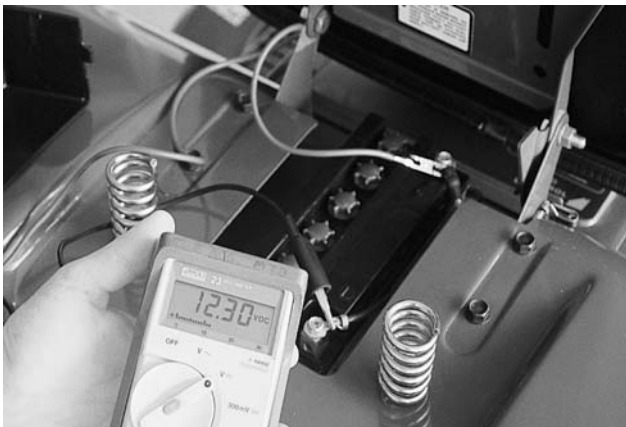

Figure 3-19.
2. Check the battery with a voltage tester. The battery should read approximately 12 volts. Turn the key switch to the start position. If the voltage drops more than 2 volts, refer to the battery video for testing procedures. See Figure 3-19.